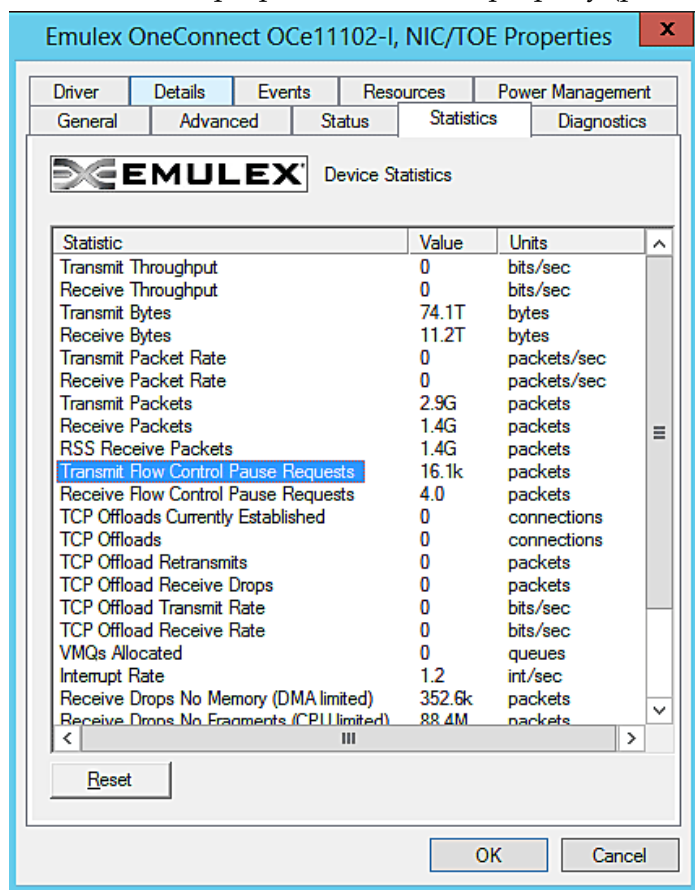

Figure 3-3 NIC/TOE Statistics Properties in Windows Server 2008
3. Click **Properties**, then click the **Statistics** tab (Figure 3-3 on page 59).